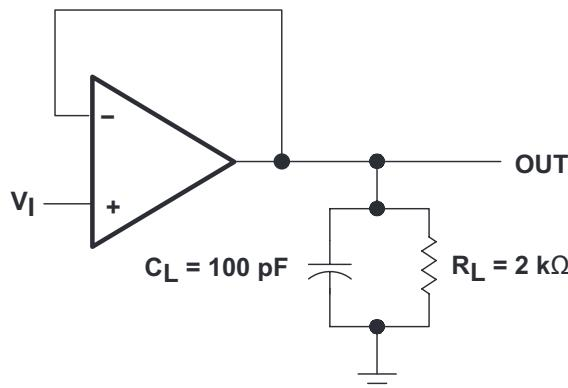

Figure 7-1. Unity-Gain Amplifier
| SRSlew rate at unity gain (1) | $V_I = 10$ V,$R_L = 10$ k $\Omega$ ,see <a href="#">Figure 7-1</a> | 1.5         | 3.5 |     | V/ $\mu s$      |
| $t_r$Rise-time                           | $V_I = 20$ V,$R_L = 10$ k $\Omega$ ,see <a href="#">Figure 7-1</a> |             | 0.2 |     | $\mu s$         |